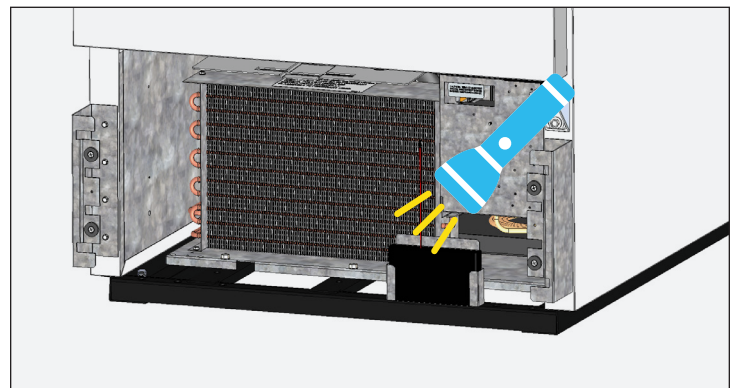

Fig. 6. Verify all blockages have been removed.
4. With dirt removed from the surface of the coil, use a flashlight to verify that you can see through the coil and observe the condenser fan blade spinning. See fig. 6.